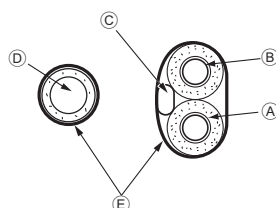

Fig. 3-6
3.3.1. Extraction and processing of the piping and wiring (Fig. 3-6)